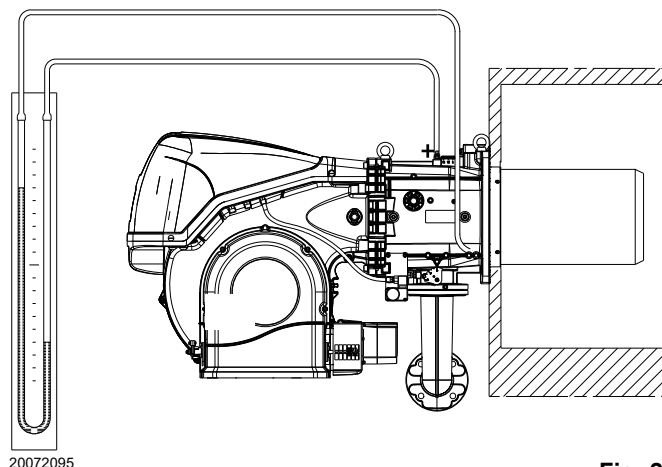

Fig. 28
- Fit a U-type pressure gauge or a differential pressure gauge (Fig. 28), with socket (+) on the gas pressure of the pipe coupling and (-) in the combustion chamber.